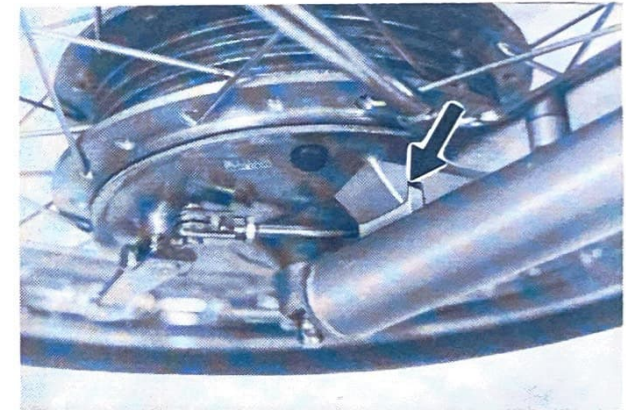

Fig. 62
1. Check for proper engagement of the boss on the outer fork tube with the locating slot on the brake shoe plate. (Fig. 62)